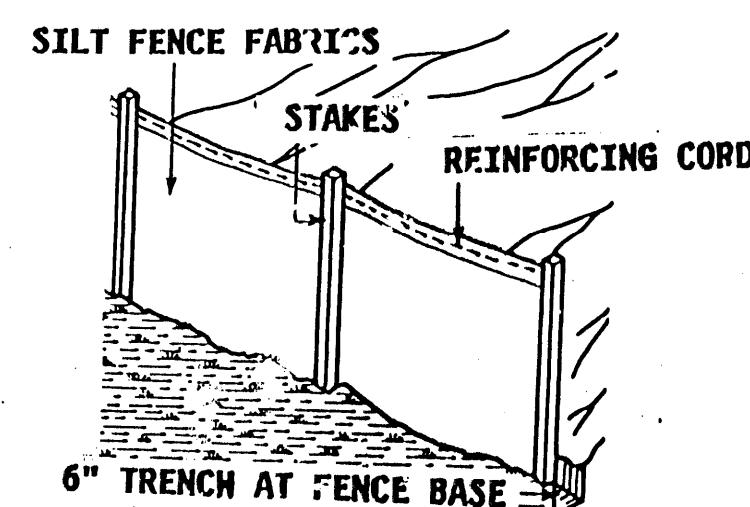

FIGURE 6 SILT FENCE BARRIERS
1. Silty Fence Fabric Barriers may be used for the control and filtration of silt from the water runoff on disturbed soil surrounding construction sites such as shown in Figure 6.